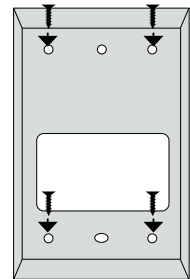

Fig. No. 14
3. Fix the keyboard holder on the wall using the screws. (see Fig. No. 14)